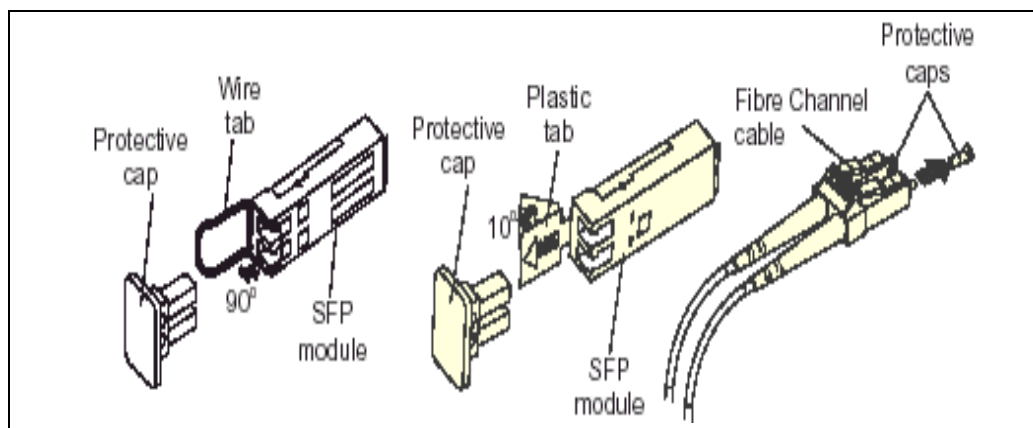

Figure 3-41 SFP Module and LC Fibre cable connector
- ▶ To Install an SFP module and Fibre Channel cable: Remove the protective caps from the SFP module and from the Fibre channel cable. *Do not touch* the exposed fibre-optic cable (see Figure 3-41 on page 62). Insert the SFP module into an SFP module port on a FAStT600 FC host or expansion port and then connect the fibre cable to SFP module.